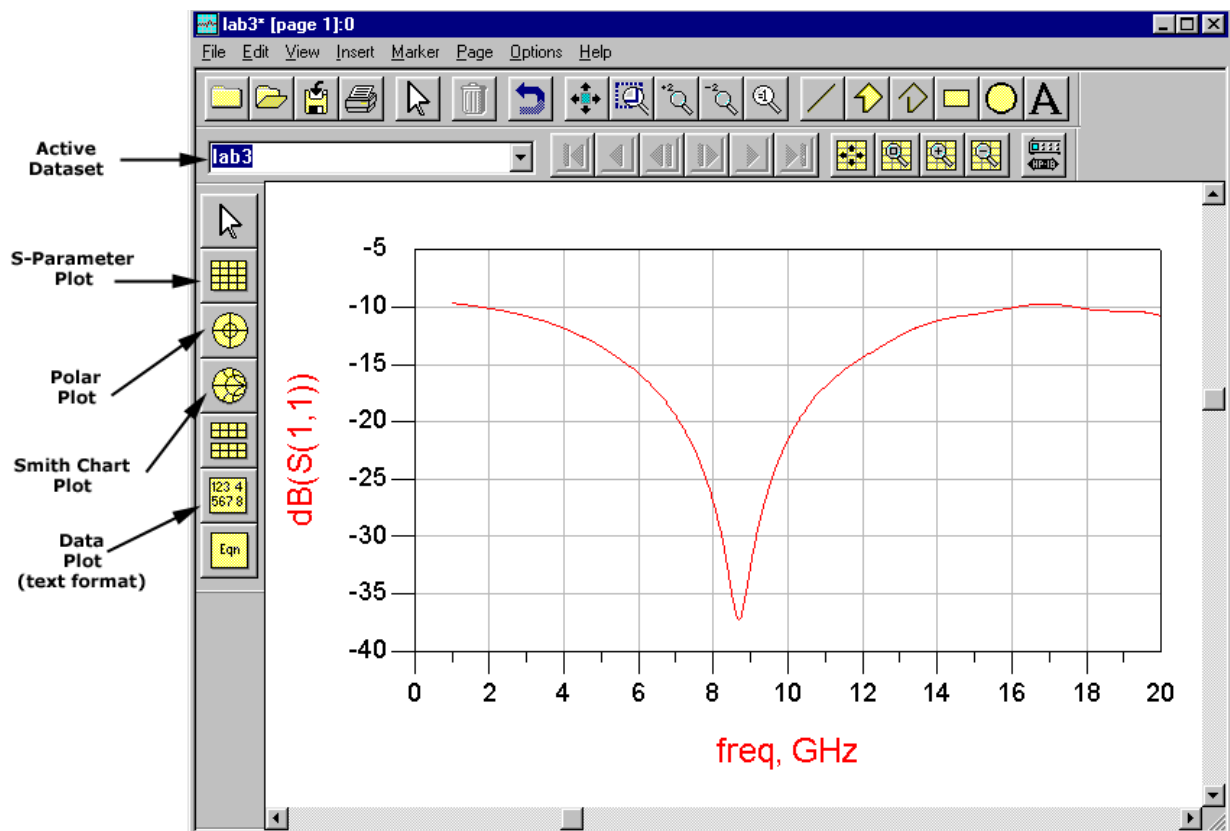

Figure 4 Schematic Window and Library / Elements.
- g. Click the Synthesize button, the analyser will run, and the width (W) and length (L) will appear in the "Physical" section.
11. Plot the result by opening a new data display (**Simulate — New Data Display**, or pressing the graph icon on the toolbox). In the new window that pops up (Fig. 4), select **Insert — Plot**, then insert the square box in the blank display by clicking. Select S11, click “Add”, then chose “dB”. Select “OK”, and the plot of S11 will be displayed. Note the frequencies at which the circuit is matched. Is this what you expected? Explain.